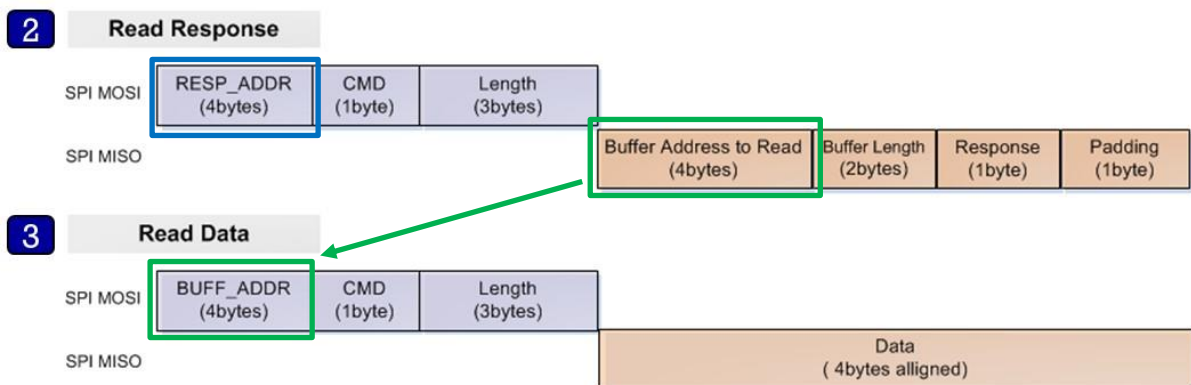

Figure 5: Structure for Read Operation
| Figure 5: Structure for Read Operation | 7 |
2. The Host reads the response message from Response Command address (0x50080258, blue rectangle in Figure 5) and parses it uses `struct _st_host_response`. (see Table 4).
3. The Host reads data from address (BUFF_ADDR) which is received from Slave in the response message. (Green rectangle in Figure 5)